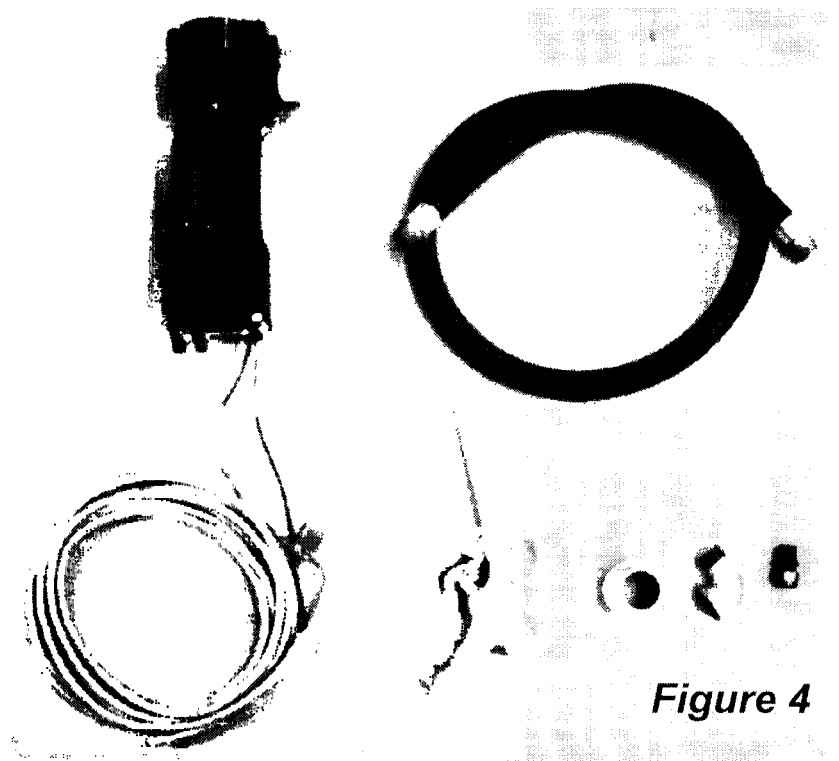

Figure 4
6. On a workbench, lay out parts for the new pump kit. (Figure 4)